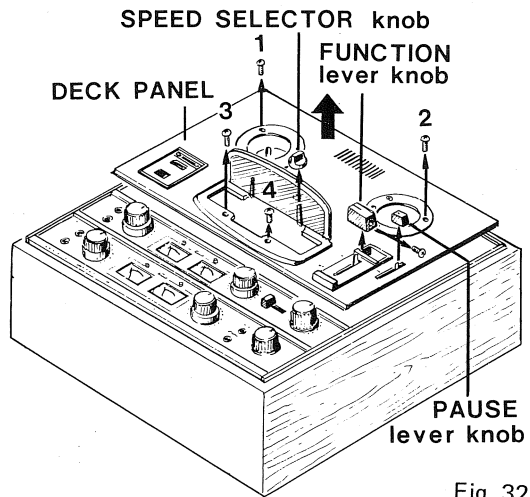

Fig. 32
4. Remove the four screws (1 ~ 4) on the deck panel and remove the deck panel. (Refer to Fig. 32)